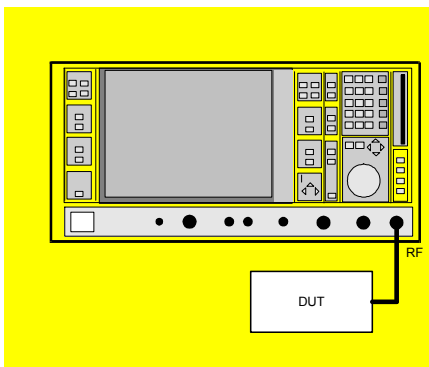

Fig. 1-1 Preparation for level detection
- Connect the DUT to the RF input of the spectrum analyzer. (see Fig. 1-1)